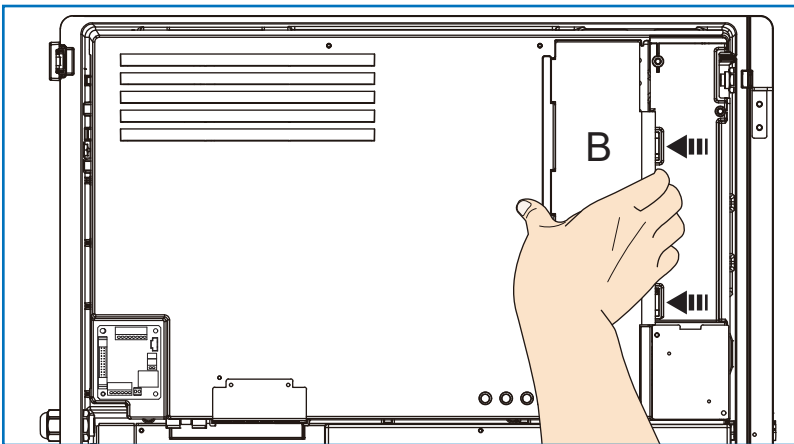

Figure 5-5: Steps of changing SPDs
The AC and DC SPD units are located as shown in **Figure 5-5**.
1. Remove 5 self-retaining screws on the A cover. (**Figure 5-5**)
- **To remove the defective DC SPD (Figure 5-5 & 5-7)**
1. Remove B cover. (**Figure 5-5**)